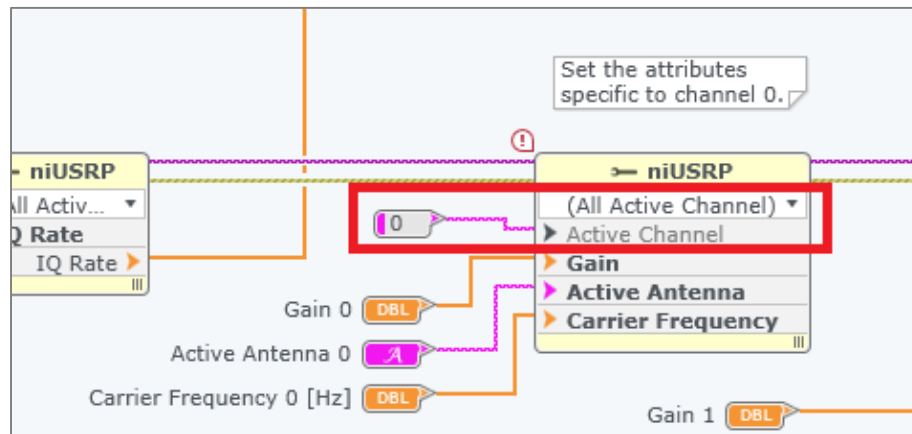

Figure 45: Active Channel Filter
1. The property node filters in LabVIEW Communications 2.0 are located beneath the property node title as a dropdown menu (“All Active Channel”) as shown in Figure 45.